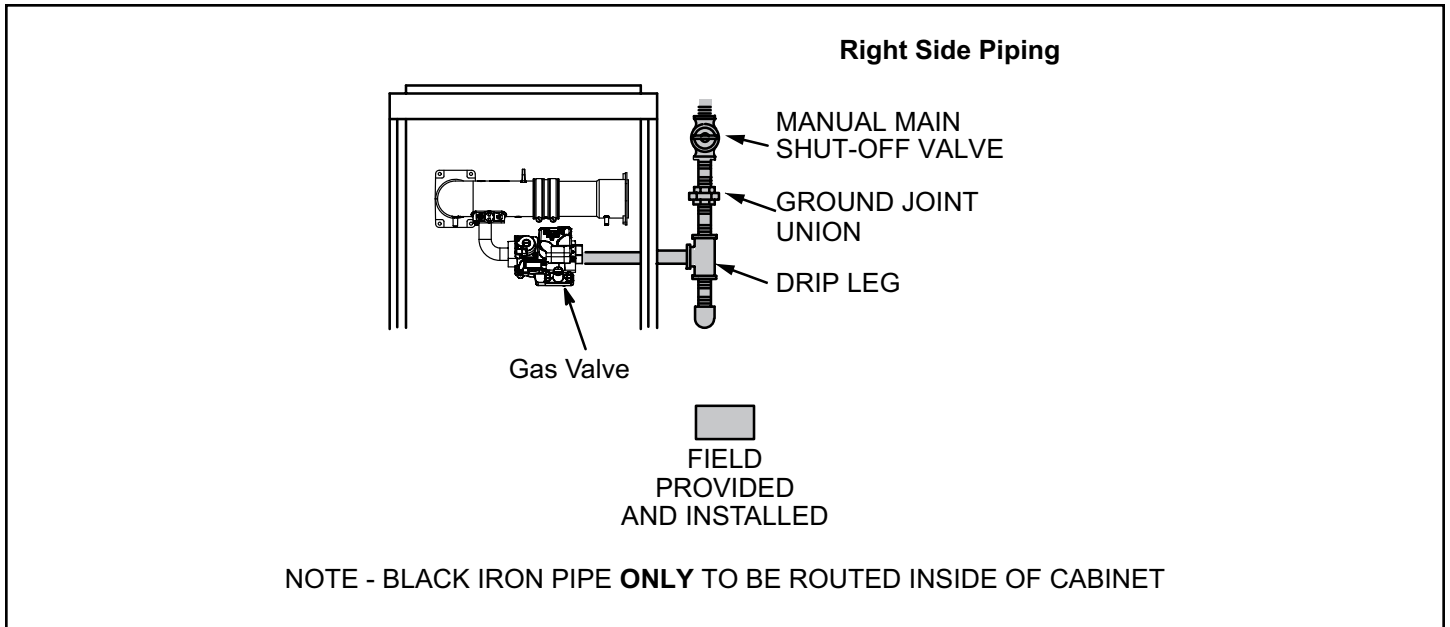
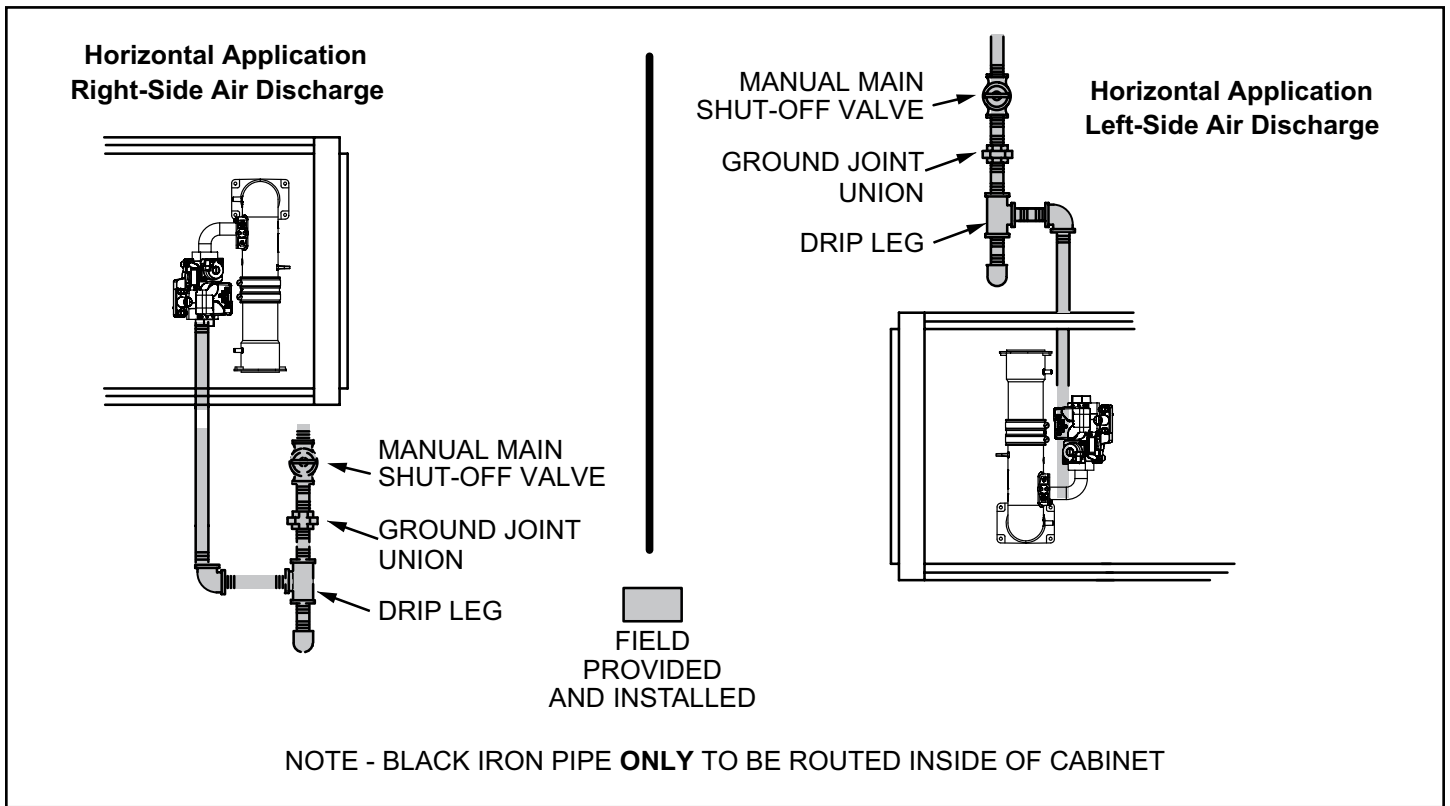

Figure 57. Possible Gas Piping Configurations - Upflow Applications
Figure 58. Possible Gas Piping Configurations - Horizontal Applications
1. Gas piping may be routed into the unit through the right-hand side only. Supply piping enters into the gas valve from the side of the valve as shown in Figure 57. Connect the gas supply piping into the gas valve. The maximum torque is 800 in lbs and minimum torque is 350 in lbs when when attaching the gas piping to the gas valve.
3. Gas piping must not run in or through air ducts, clothes chutes, chimneys or gas vents, dumb waiters or elevator shafts. Center gas line through piping hole. Gas line should not touch side of unit. See Figure 57 and Figure 58.